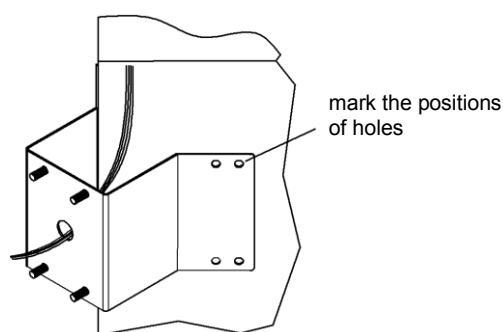

FIG. 21
1. First mark the positions of holes placing the corner mount bracket. (FIG. 21)